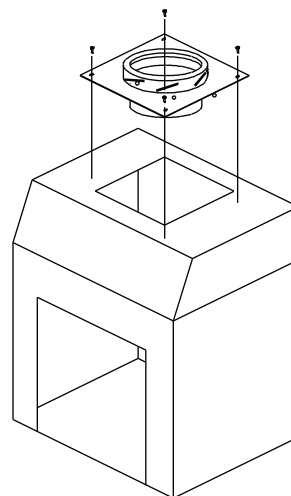

Figure 56
Once the appliance is installed, bolt the Anchor Plate (SP) to it. Install the chimney according to the installation instructions for the finish support (SFC) (see Figure 56).